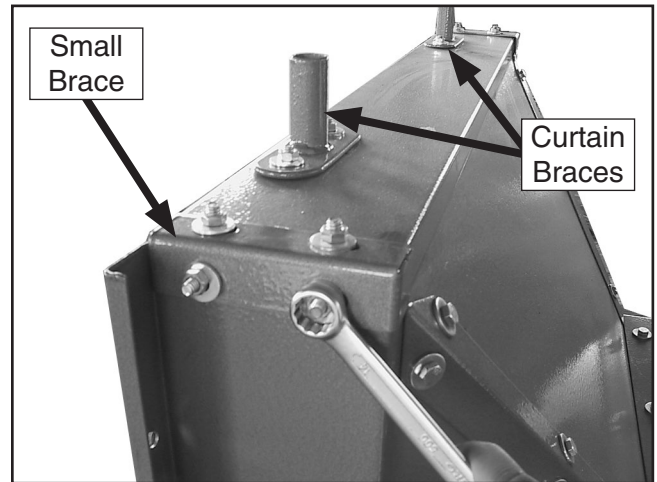

Figure 11. Installing small brace.
- Place a small brace over the seam of the skew boards shown in **Figure 11** and fasten with four $\frac{1}{4}$ "-20 x $\frac{5}{8}$ " flat head screws, four flat washers, and four hex nuts.
- Install the curtain braces with four $\frac{1}{4}$ "-20 x $\frac{5}{8}$ " flat head screws, flat washers, and hex nuts as shown in **Figure 11**.